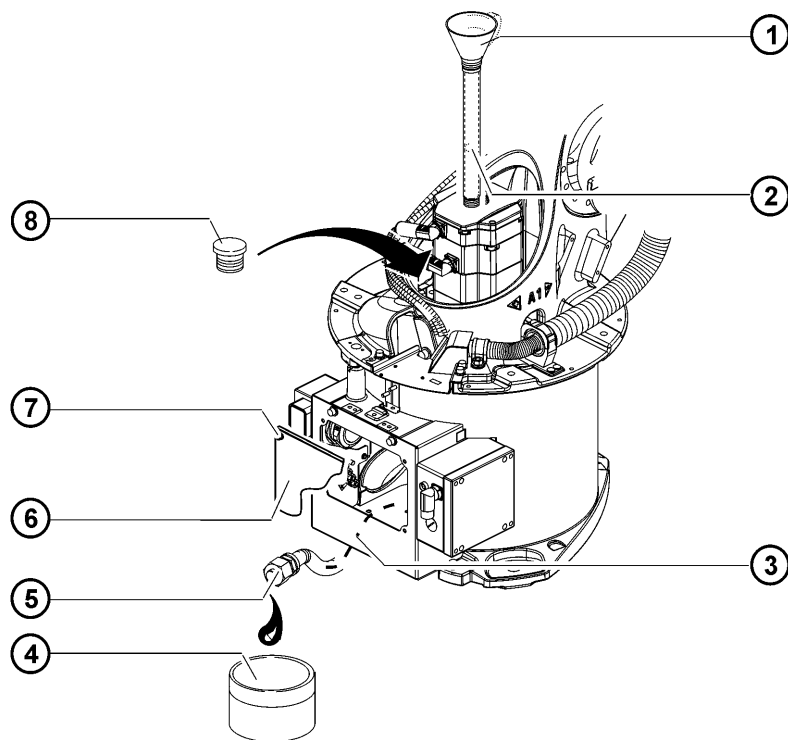

Fig. 9-2: Oil change on axis 1
1. Remove 4 M6x10 Allen screws and lock washers (>>> Fig. 9-2), and take off the cover.
1. Pour the specified amount of oil into the filler hole of the magnetic screw plug (>>> Fig. 9-2).